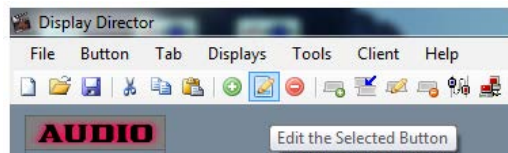

Figure 2-18
- Click on the *Edit Button* icon in the main toolbar, as shown in Figure 2-18